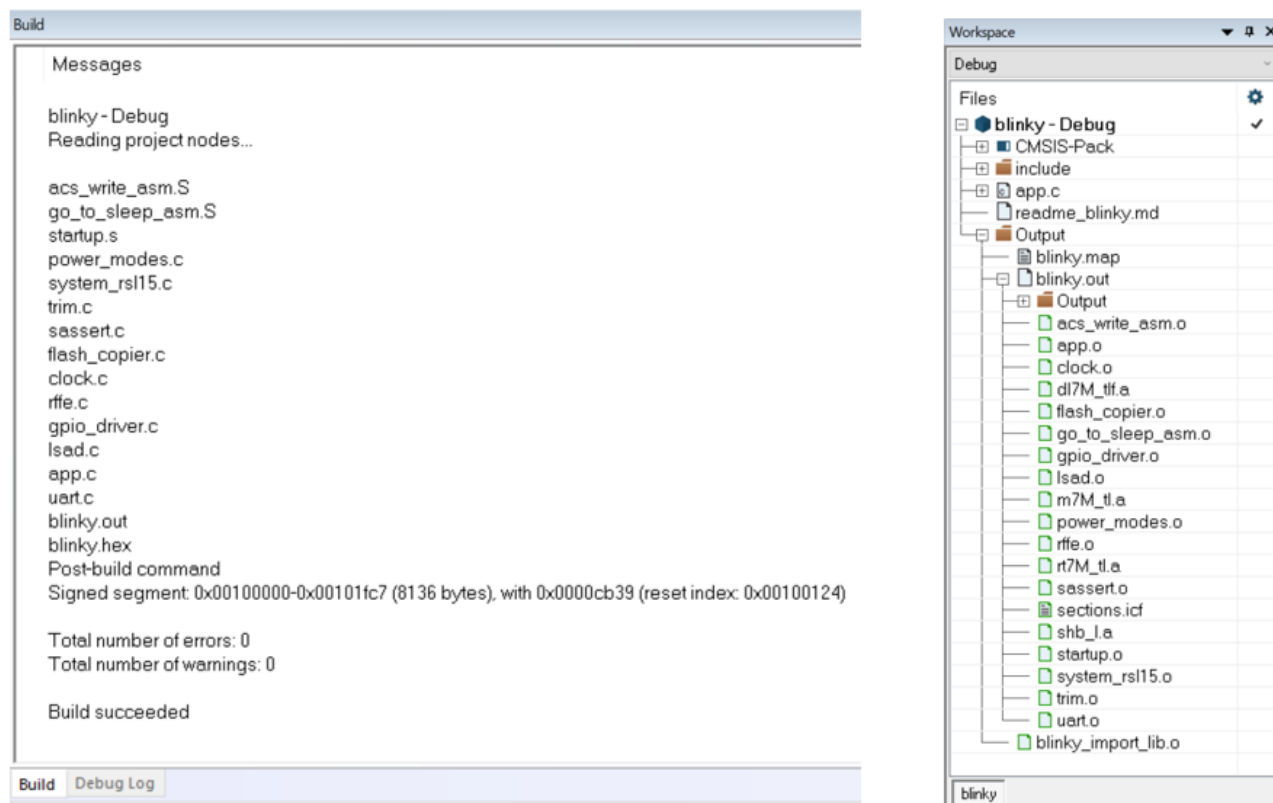

Figure 40. Example of Build Output
2. When the build is running, the output of the build is displayed in the Build Output view in the IDE, as illustrated in the "Example of Build Output" figure (Figure 40).